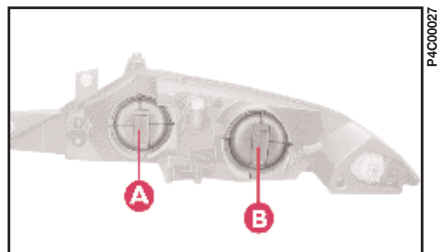

fig. 10
1) Remove covers **A** and **B** (fig. 10) by turning them partially in an anti-clockwise direction.
1) Remove the cover **B** (fig.10) by turning partially in an anti-clockwise direction.